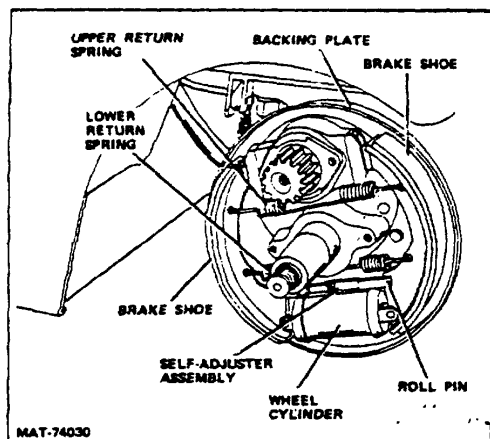

Figure 2-3. Wheel Brake
6. Remove the inner bearing cone, grease shield (if used) and dust shield. Brake components are now exposed for service (Fig 2-3).